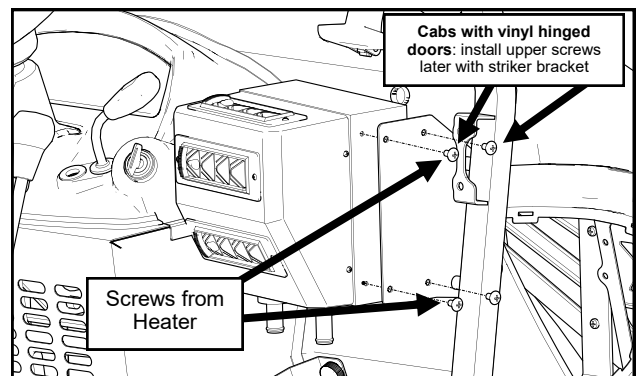

Fig. 1.2 (Install Heater)
- 1.2 Attach the heater to the heater bracket using the screws already installed on the side of the heater. Note that only the bottom 2 screws are installed on cabs with vinyl hinged doors. The top screws will be installed in a later step. See Figure 1.2. Tighten hardware.